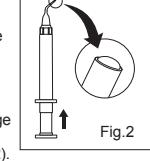

Fig. 2
2. Any possible air from the dispensing tip is removed by gently pushing forward the syringe plunger with the tip pointing upwards until material reaches the opening of the tip (Fig. 2).